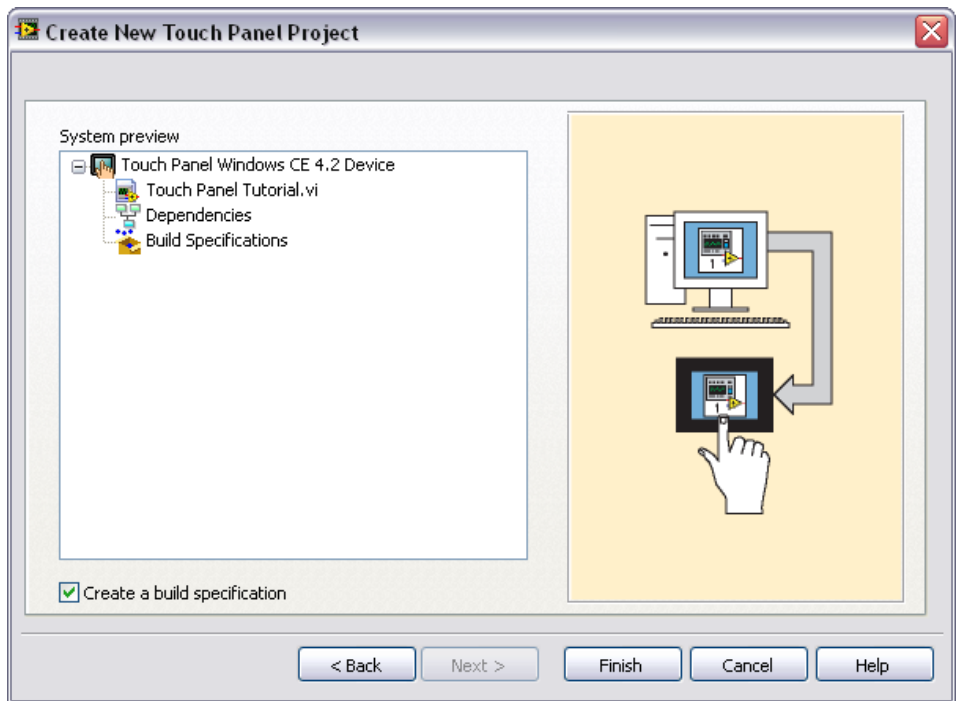

Figure 4. Previewing the Project
8. The **System preview** page, shown in Figure 4, shows a preview of the project the wizard creates when you click the **Finish** button. Notice the checkmark in the **Create a build specification** checkbox. This checkmark indicates you want to create a build specification immediately after you create the project. Refer to the Creating the Build Specification section for more information about creating a build specification.
Because the **Create a build specification** checkbox contains a checkmark as shown in Figure 4, the **Touch Panel Build Specification Properties** dialog box opens.